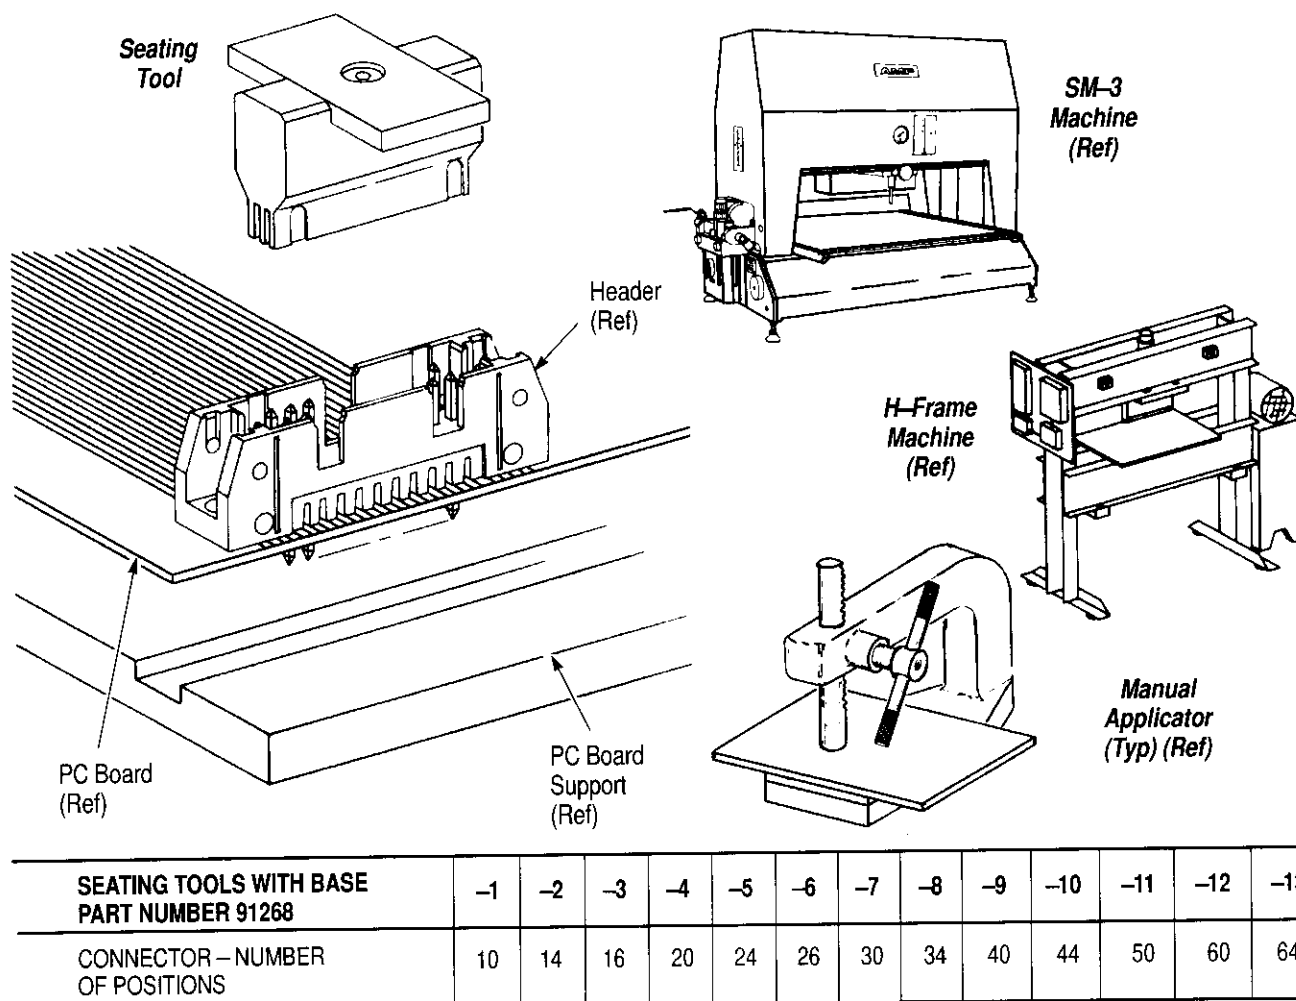

Figure 1
This instruction sheet covers the use of AMP* Seating Tools 91268-1 through -13 listed in Figure 1 which are used to install AMP-LATCH* Universal Header ACTION PIN* connectors into printed circuit (pc) boards. Read these instructions thoroughly before inserting the connectors.
3. SEATING PROCEDURE (Figure 1)**CAUTION**
1. Place pc board support into position under ram of manual arbor frame assembly or power unit (Figure 1 shows the recommended tooling).